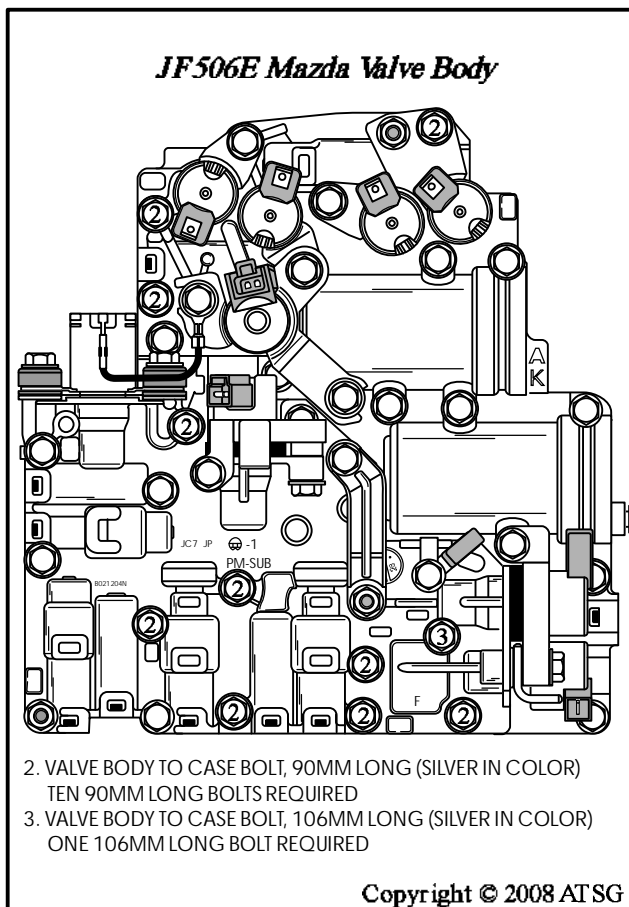

Figure 36
- Note:** *Their locations are identified for you in Figure 36, with the number "2" or "3" on the bolt head. Notice that one is longer than the others and all are silver in color.*